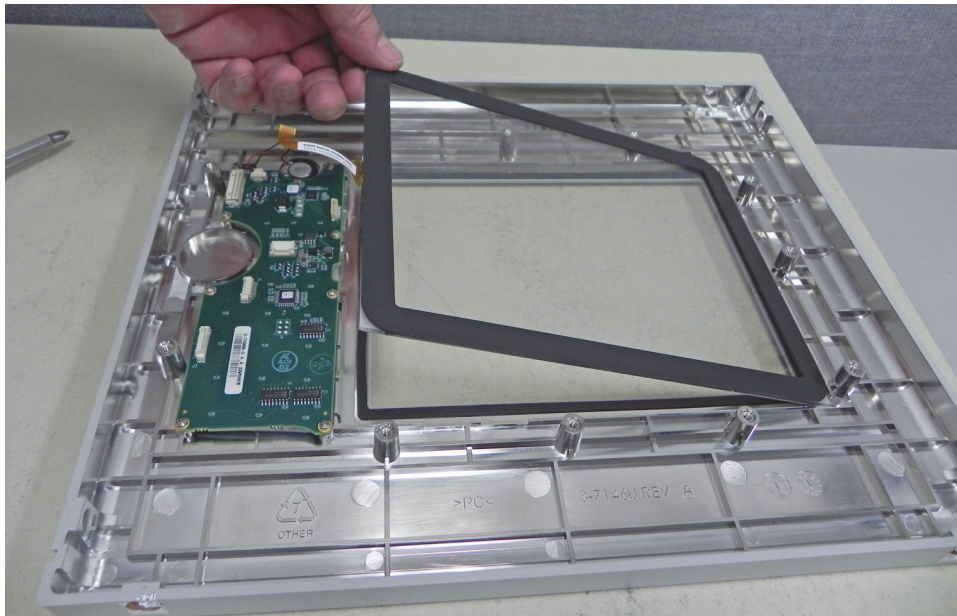

Figure 5-24. Remove Touch Screen
6. Carefully remove the touch screen. Reseat the gasket on the front side of the touch screen if it is displaced during removal (Figure 5-24).